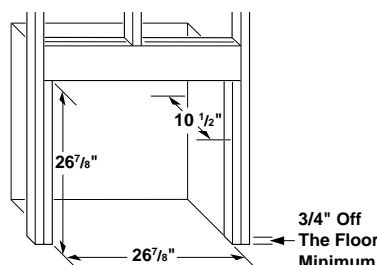

Figure 9 - Rough Opening for Installing in Wall
1. Frame in rough opening. Use dimensions shown in Figure 9 for the rough opening.